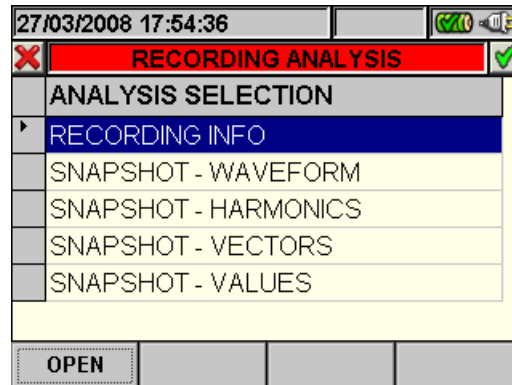

Fig. 143: Recording analysis (Istant-type data)
2. Press the **ESC** key (or the smart icon  on the display) to exit the function and go back to the "Recording analysis" page (Fig. 143).
- The **ESC** key (or the smart icon on the display) to exit the function and go back to the "Recording analysis" page (Fig. 143)
- The **ESC** key (or the smart icon on the display) to exit the function and go back to the "Recording analysis" page (Fig. 143).